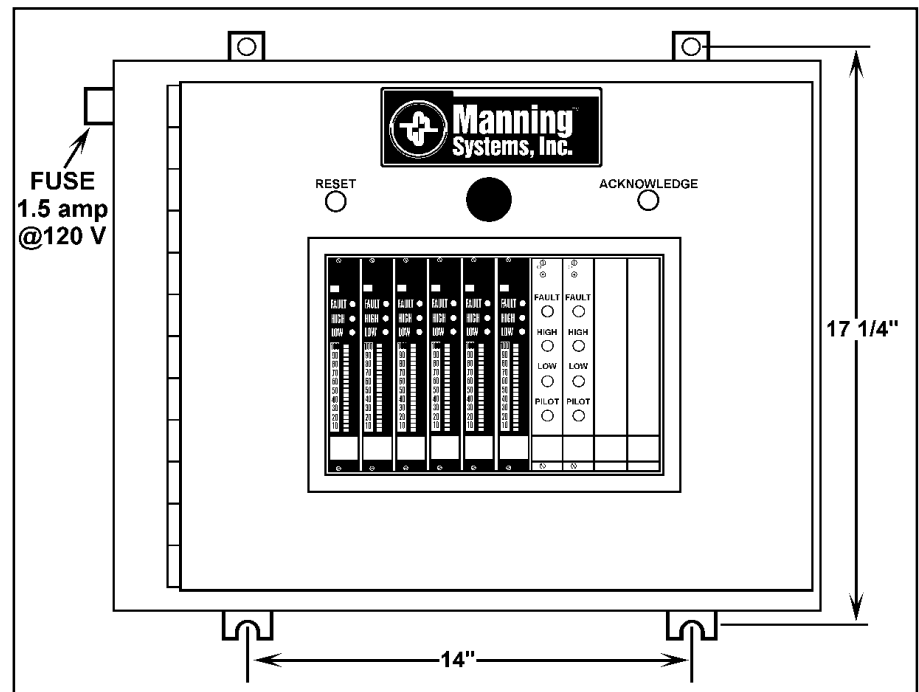

Figure 1: Mounting dimensions for the Model 20 Gas Monitoring Alarm System
- Mounting dimensions are included in Figure 1.